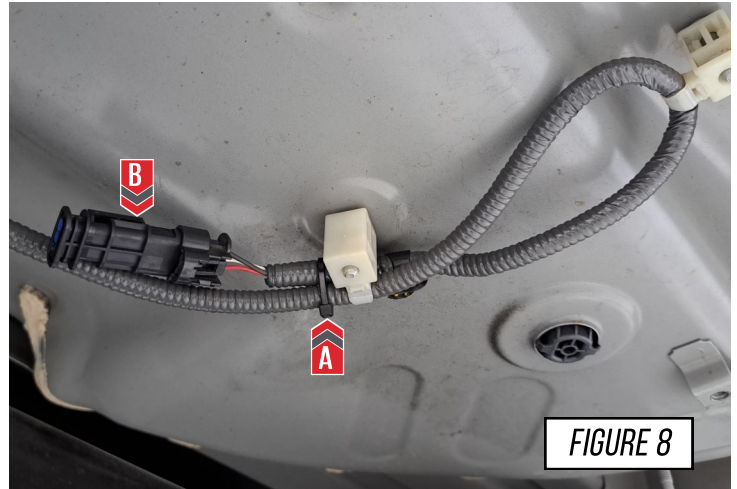

FIGURE 8
Now gather the provided valve plug and plug it into the OE valve motor connection, as shown at (B), in **Figure 8**.
Use a provided cable tie to secure the OE exhaust valve wire out of the way, as shown at (A) in **Figure 8**.